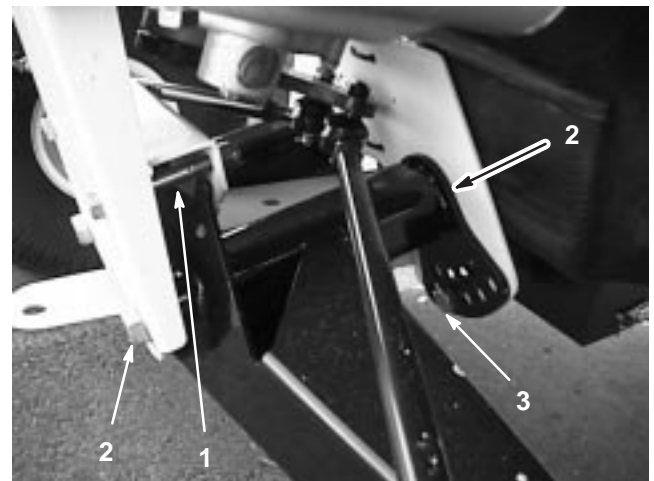

Figure 25
2. Remove the travel limiting bolt (Fig. 25).
3. Loosen the centering bolts in the front A-arm (Fig. 25).
4. Remove the ride height adjustment bolt (Fig. 25).
5. Rotate the front A-arm to the desired position (refer to the note below) and replace the ride height adjustment bolt (Fig. 25).
7. Replace the travel limiting bolt (Fig. 25).